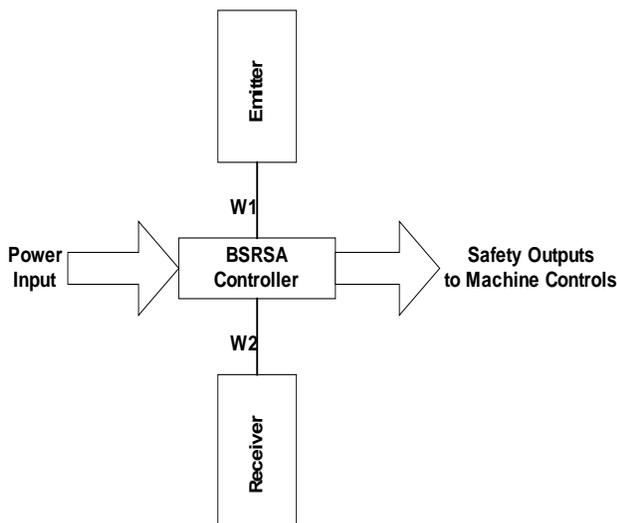

Figure 28 - BSRSA System Block Diagram
The BSRSA interface unit has four internal terminal strips, designated X1, X2, X6, and X7. Each connection point is mechanically suitable for (1) 2.5mm², 14 AWG wire. Crimped ferrules or tinning must be used on all stranded wires. **Figure 28** shows the system block diagram for the BSRSA controller.